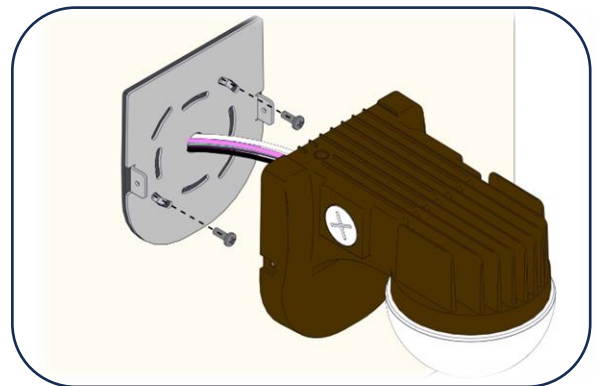

Figure 3
3. Mount the Quick Mount Bracket to the junction box (hardware provided by others). [Figure 3]